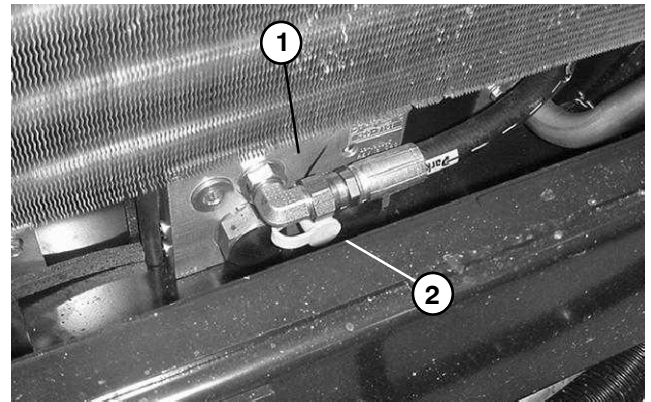

Figure 37
3. Connect a 1000 PSI gauge to test port on 2WD/4WD control manifold under radiator (Fig. 37).